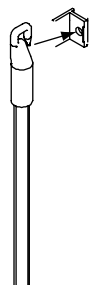

Figure 8
- ① For Panel Track units which open and close from one side, attach Wand by hooking it into the eye on the endmost panel (on the end from which the unit will open) (see Fig. 8).
- For Panel Track units which open and close in both directions from the center, attach Wands by hooking into the eyes on the two center panels (see Fig. 8).